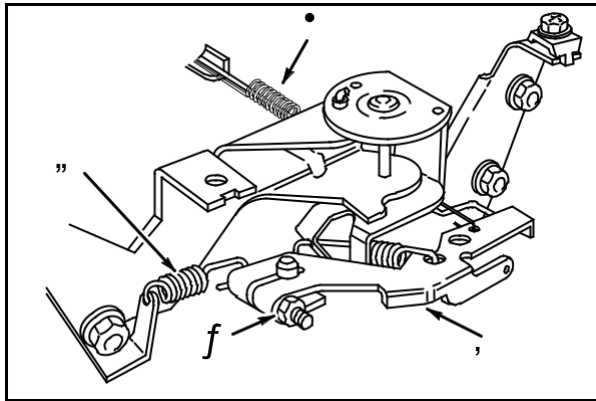

Fig. 5
Disconnect governor link and spring (1) at carburetor, **Fig. 5**.